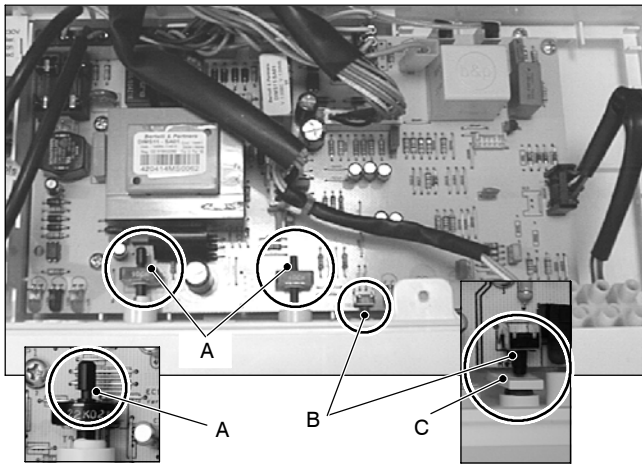

Fig. 42
- 8 Insert the spindles in the control panel knobs until the notch A (Fig. 42) reaches the potentiometer edge. It is not necessary to force them in the knob.
- 9 While tightening the screws that fix the Electronic control/ignition p.c.b. on the control panel, keep the p.c.b. towards the control panel fascia making sure of the contact between the boiler reset button B and the tab C (Fig. 42).